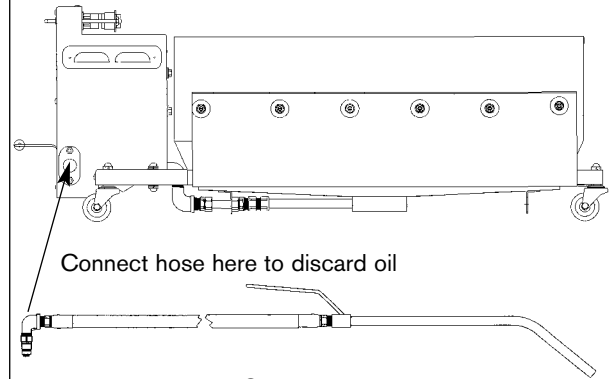

FIGURE 8.
- Connect the hose to the right side of the filter assembly in the front. See Figure 8.